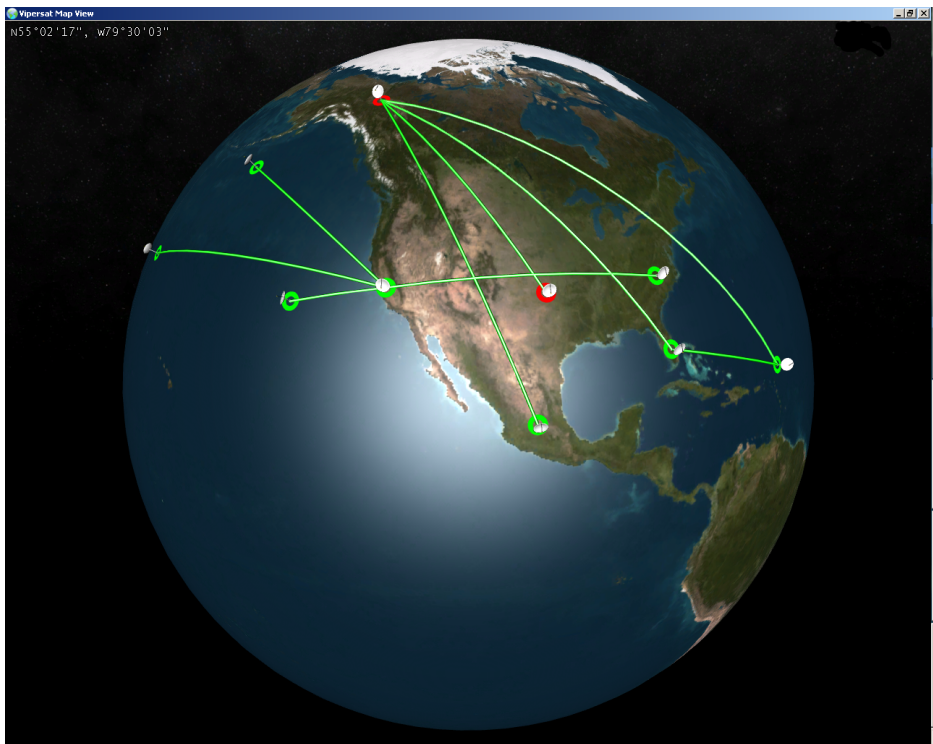

Figure 2-49 Vipersat Map View window
3. The **Vipersat Map View** window will appear, as shown in figure 2-49.